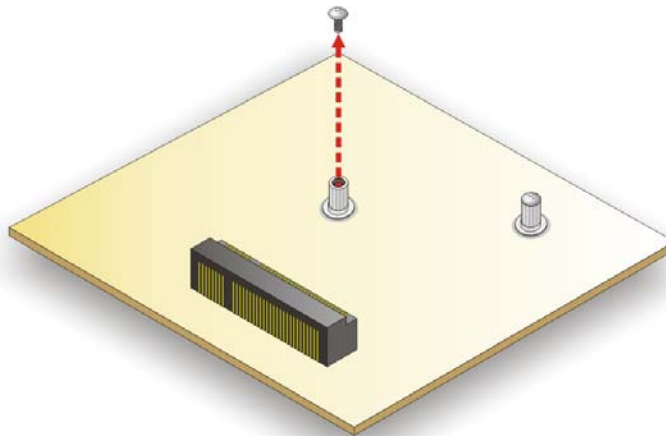

Figure 3-6: Removing the Retention Screw
Step 4: Remove the retention screw. Remove the retention screw for half-size card installation as shown in **Figure 3-6**.